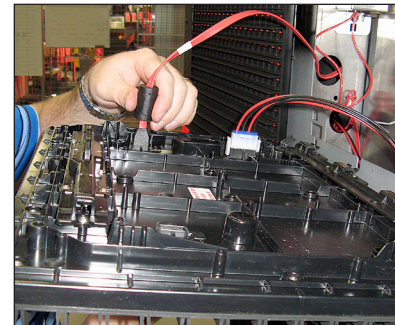

Figure 14: Disconnect Cables
5. Disconnect the SATA cables and unplug the power cable by squeezing the tabs on the sides of the plug head and pulling it out, as shown in **Figure 14**.